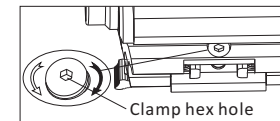

Fig4
- ① There is one hex hole at the end of clamp adjusting screw by the side of device. (See Fig4), before installation, Left rotating screw to loose the convex set with hex spanner, and than.
- ② Pull up the CAM clamp hand shank. Slid the sight in rail, close the clamp hand shank.
- ③ Right rotate the adjusting screw hole by hex spanner , tighten convex set with rail to moderate degree. Try to pull up and close the hand shank, adjusting the clamp screw to appropriate degree, neither too tight nor too loose , and can be avoid to loose under recoil shock.